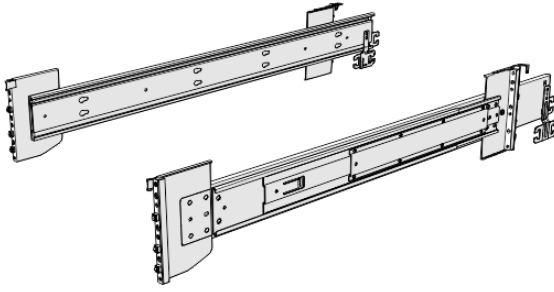

Figure 42. Support rails
1. Locate the hardware that is used to install the rails, including the M4xL6 and M5xL13 screws. Set the hardware, which is shown in Figure 42 on page 85, aside for use later in the installation process.